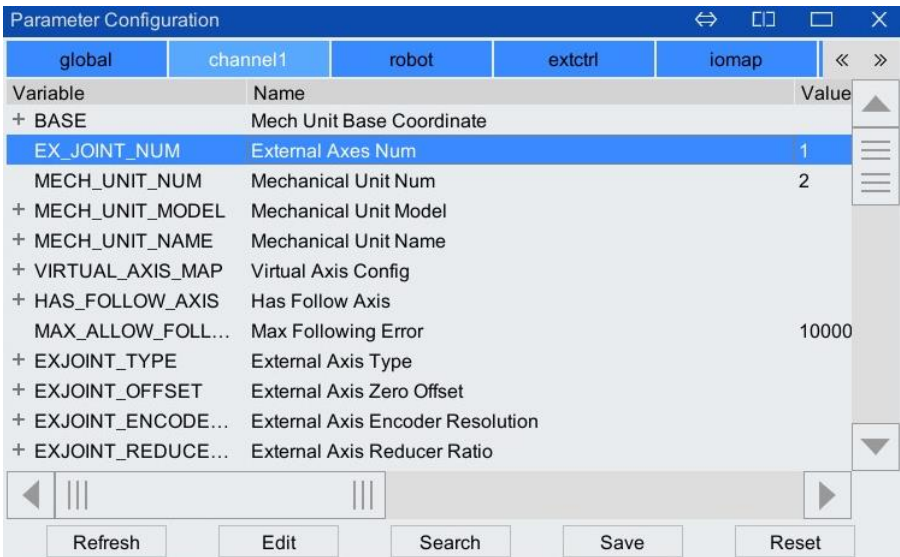

Figure 6-3 External axis number (EX_JOINT_NUM) parameter configuration interface
- Step1. Select [System/Parameter Configuration/Channel] in the upper right corner of the teach pendant main interface, and you can see that the value of the [EX_JOINT_NUM] parameter is "1". As shown in Figure 6-3.